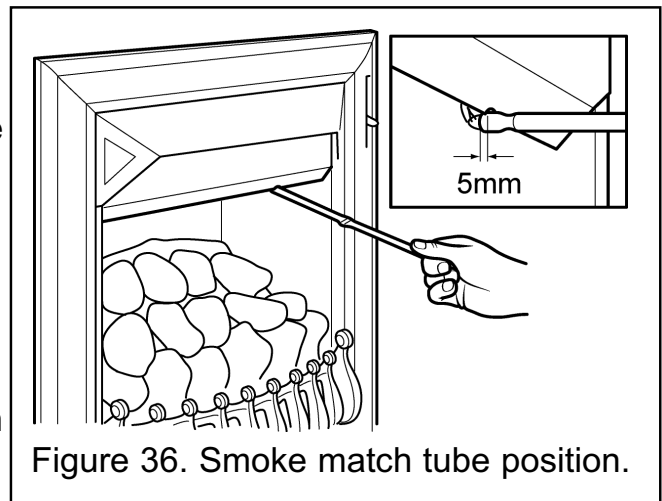

Figure 36. Smoke match tube position.
4. The smoke match should be placed horizontally into the convection box at the right hand side. There is a notch in the black cross member. Insert the tube so that the neck of its flared end is 5mm passed and in contact the cross member (See figure 36).